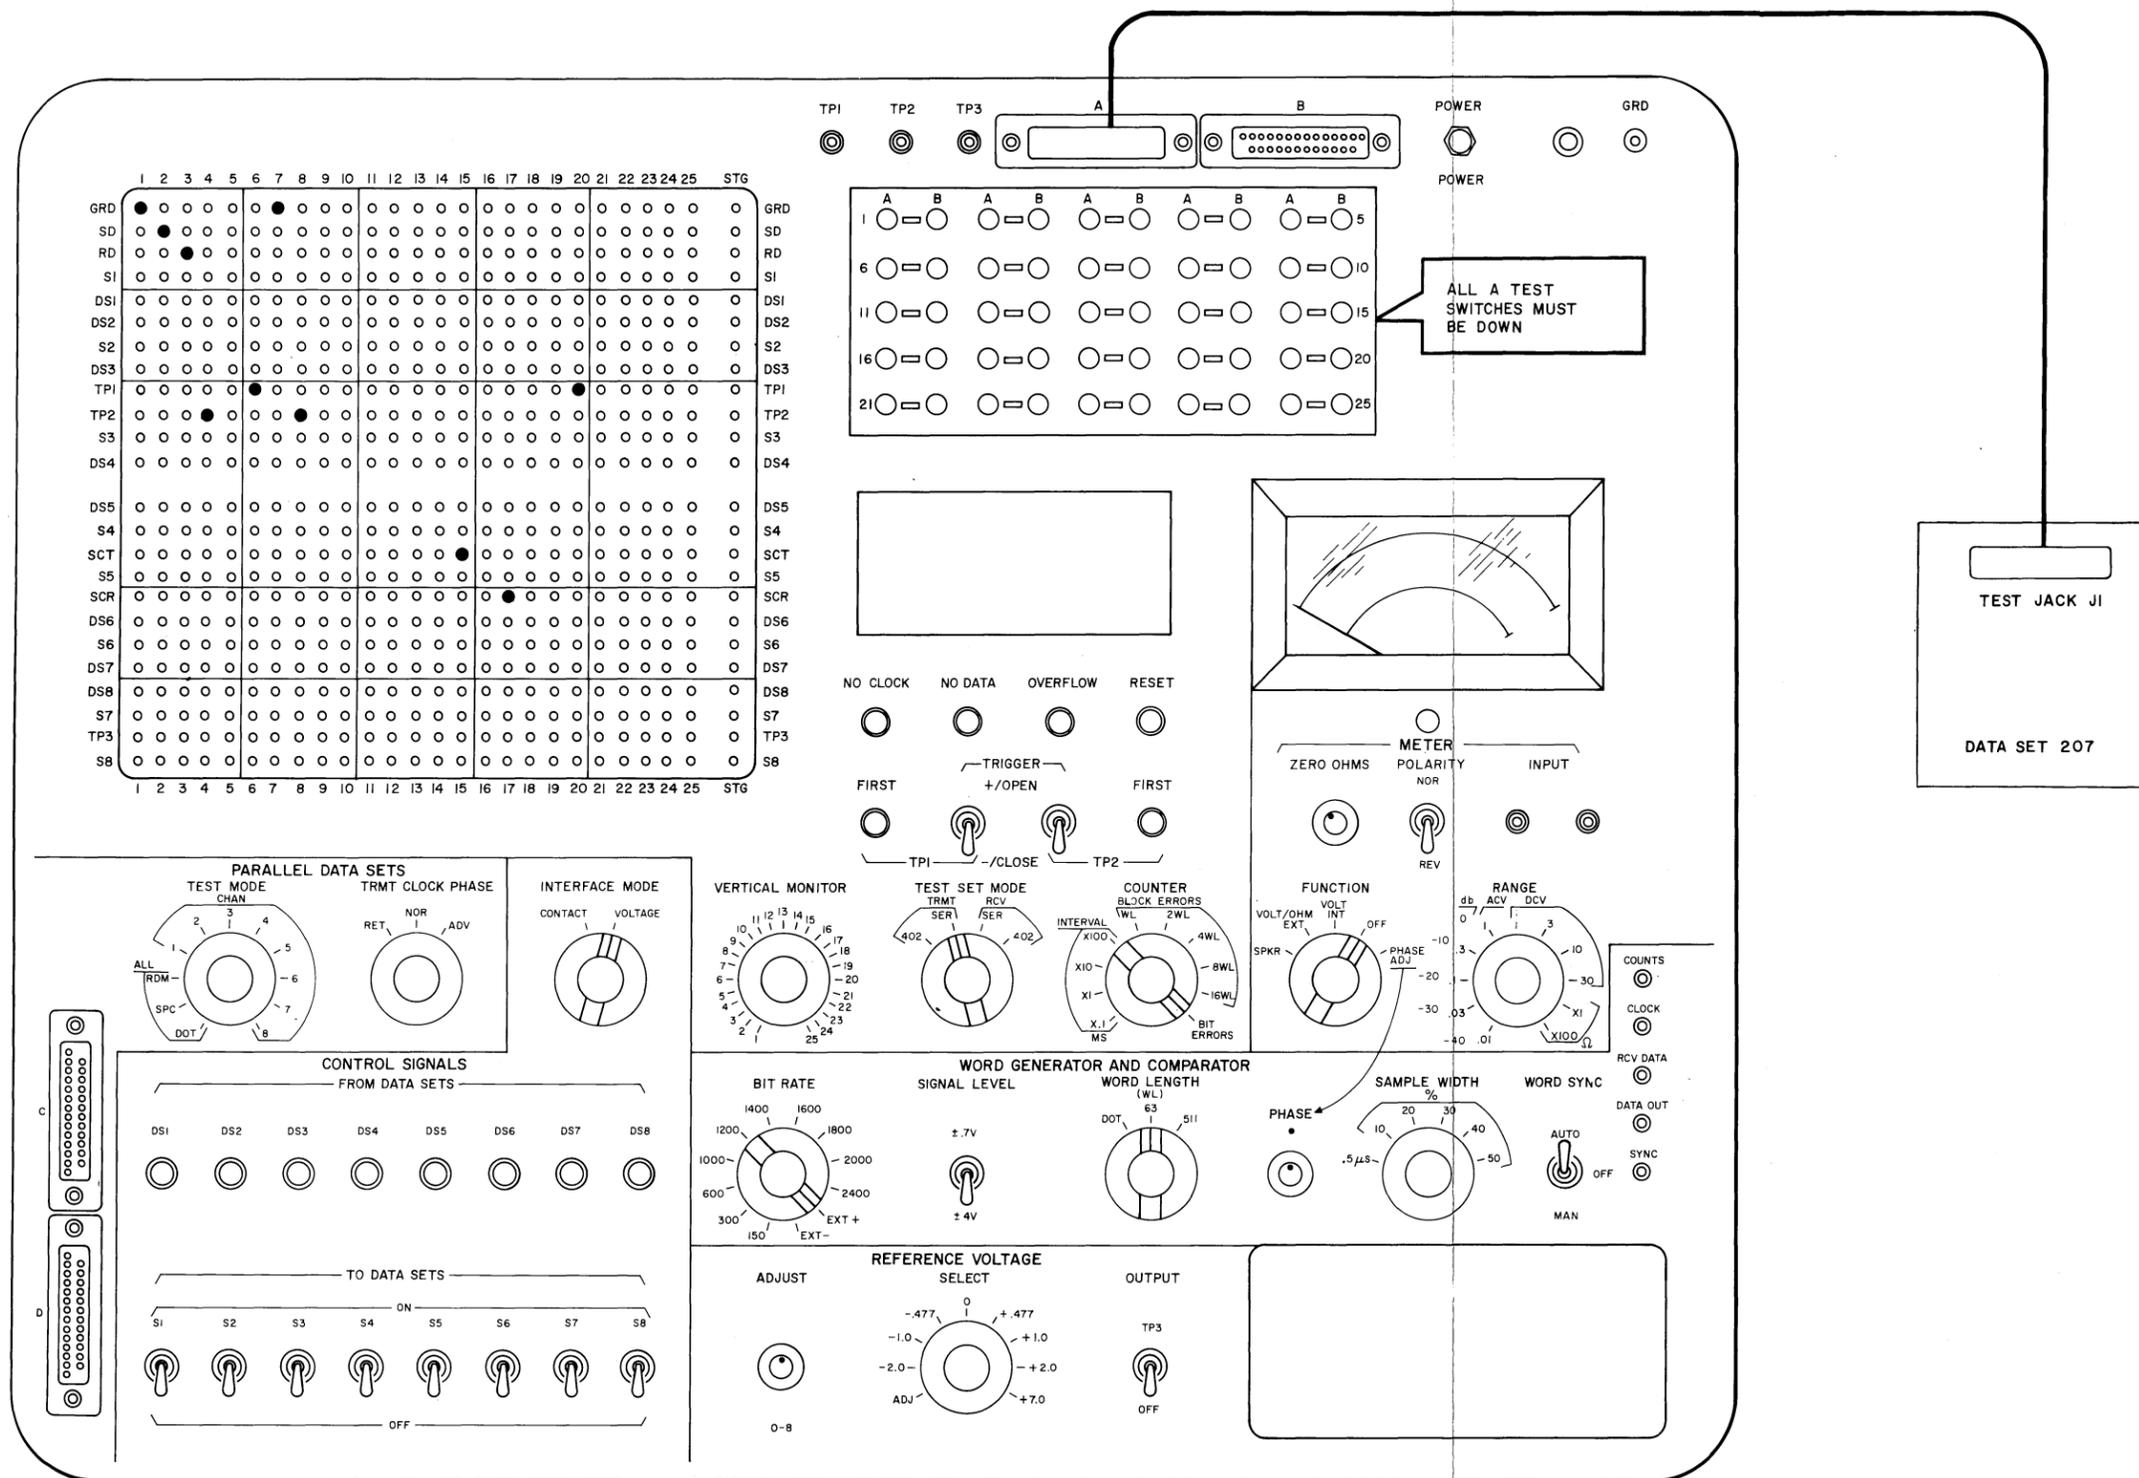

Fig. 5—End-to-End Test of Regenerator Data Set
- (g) Set up the 914B DTS at the transmitting end as shown in Fig. 5.